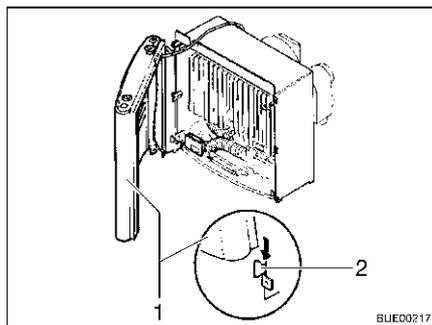

Fig. 127 Heater cover, retaining clips
- Mount the heater cover. To do this, place the cover (Fig. 127,1) on the lower retaining clips (Fig. 127,2).